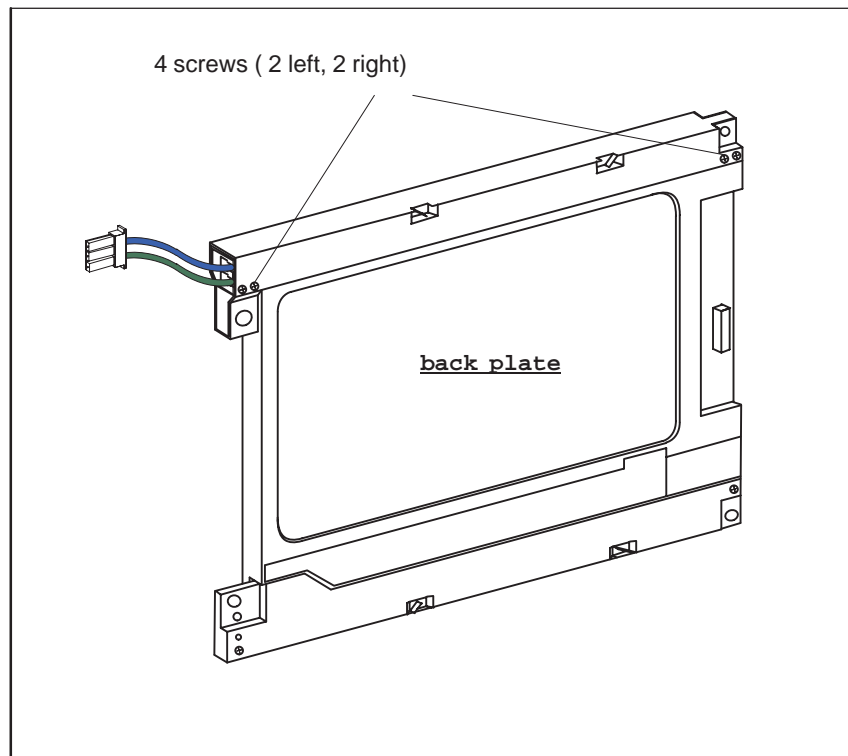

Figure 1-22 Applying the Screwdriver
- Remove the 4 screws as shown in Figure 1-22 (2 left, 2 right).